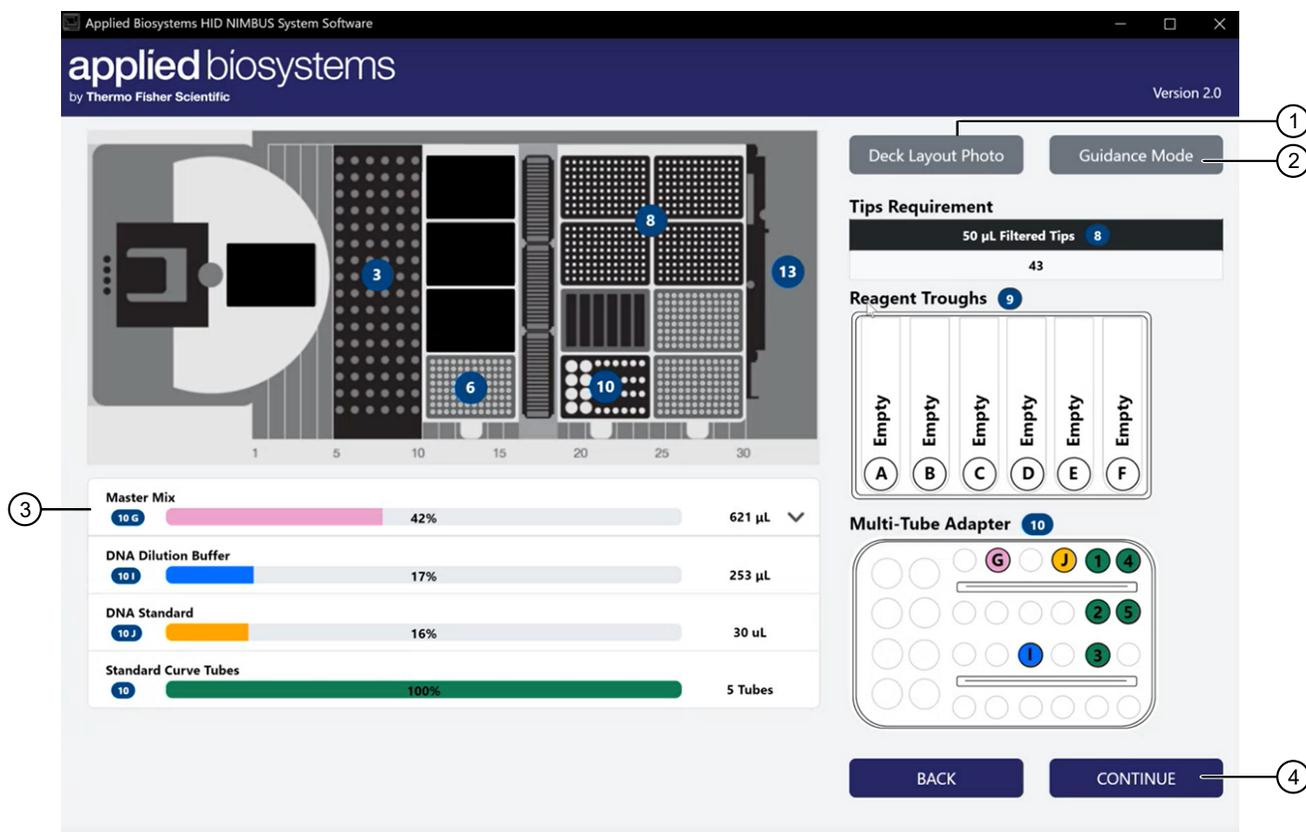
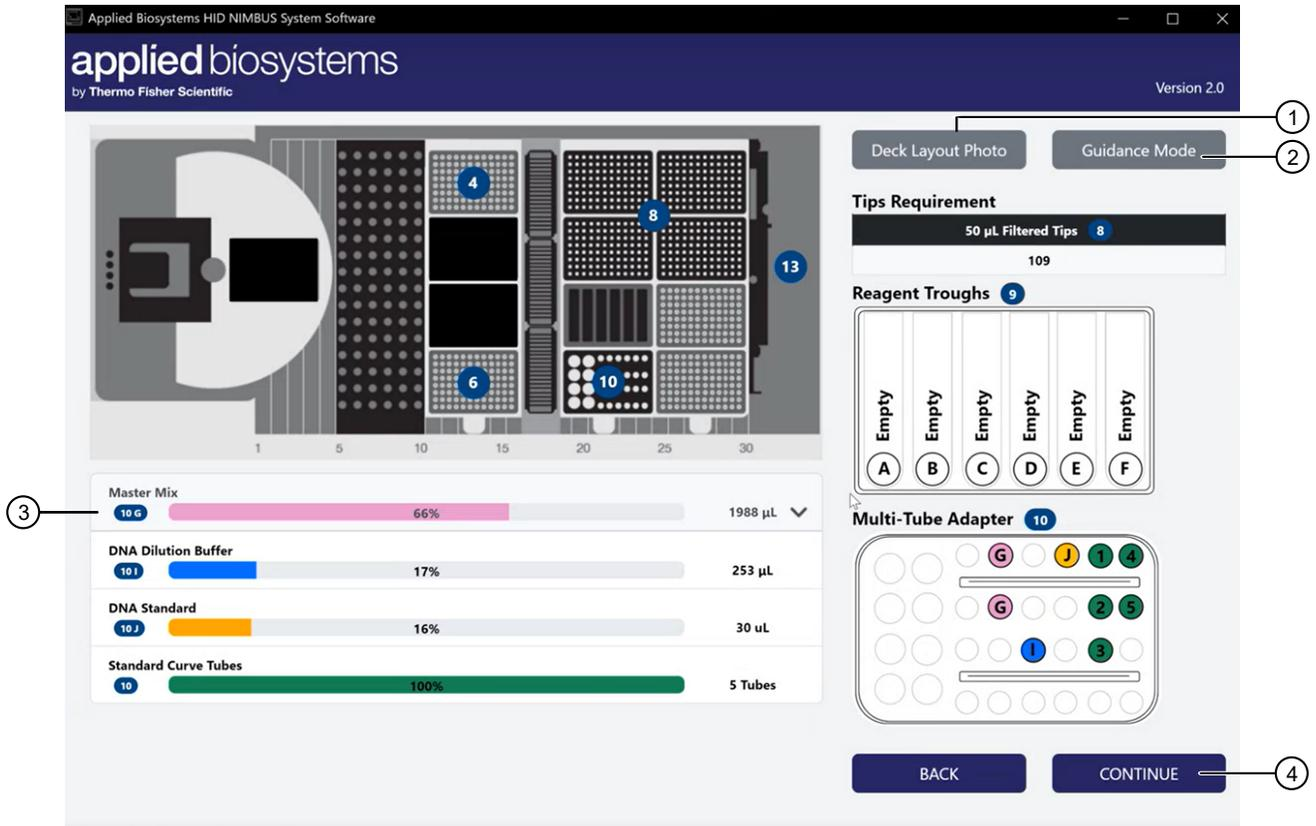

Figure 5 Example quantification deck layout with tubes as the input labware
Figure 6 Example quantification deck layout with a plate as the input labware
1. Place all reagents according to the diagram in the deck summary screen (see Figure 5 and Figure 6).
IMPORTANT! The total number of 50 µL tips is 384. The top left rack contains tips 1–96, the bottom left rack contains tips 97–192, the top right rack contains tips 193–288, and the bottom right rack contains tips 289–384. See Figure 5 and Figure 6.